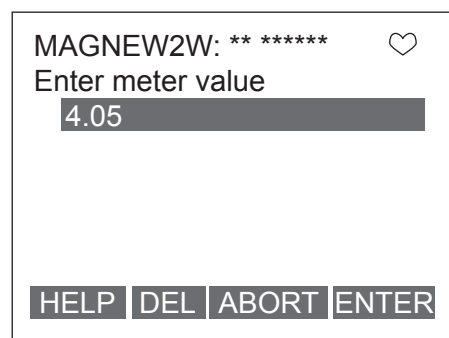

Fig. 7-45.
3. Fig. 7-45. will then appears. Connect the device to measure the current output, and then press F4 (OK).